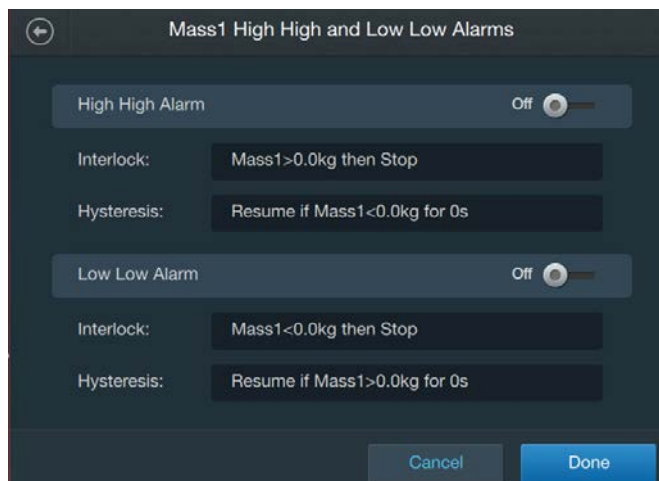

Figure 3.23. High High and Low Low alarms screen.
8. On the screen that appears (Figure 3.23), there will be separate sections for both High High and Low Low alarms. Slide the Enable/Disable buttons on each section to the “Enable” side to enable the alarms.